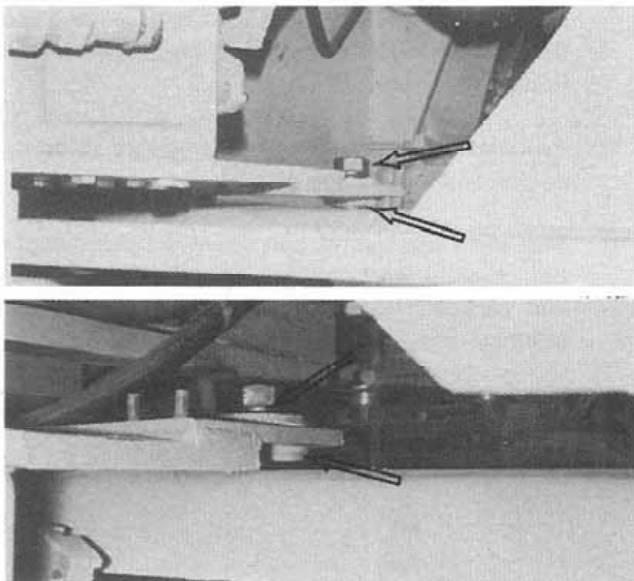

Figure 2:
2. Place the uniball retainers on each side of the uniball bushings as shown (Fig. 2). If a gap exists at either the upper or lower crossmember, use a flat-washer as a shim.